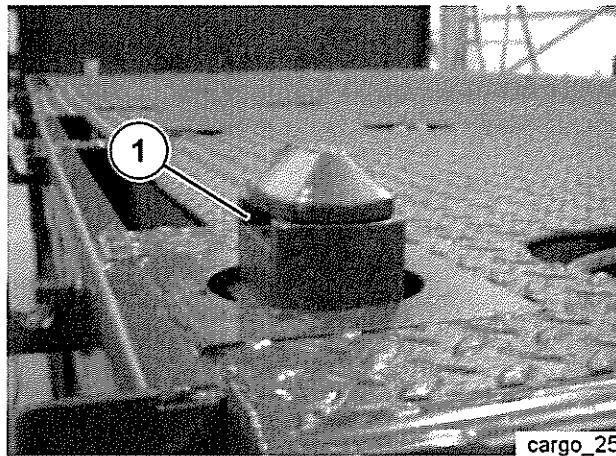

Fig 21 Stowing the ISO twistlocks
- 24 Refer to Fig 21. To stow the ISO twistlocks, proceeds as follows:
- 24.1 Lift the guide block (1) and turn through 90° and rotate the locknut clockwise.